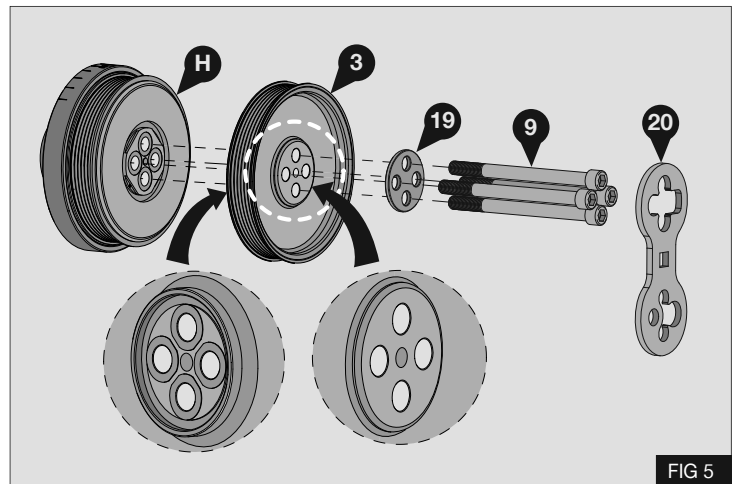

FIG 5
6. Fit the supplied crankshaft pulley (3) onto the existing crank pulley (H) using the supplied bolts (9) with crank washer (19) - Fig 5
7. Torque the M12x150 bolts (9) using the two stage procedure listed below. Use the correct end of tool (20) as a counter-hold.
**Stage 1** – Torque all 4 bolts (9) to 80 Nm / 59 lb.ft
**Stage 2** – Turn all 4 bolts (9) an extra 90°